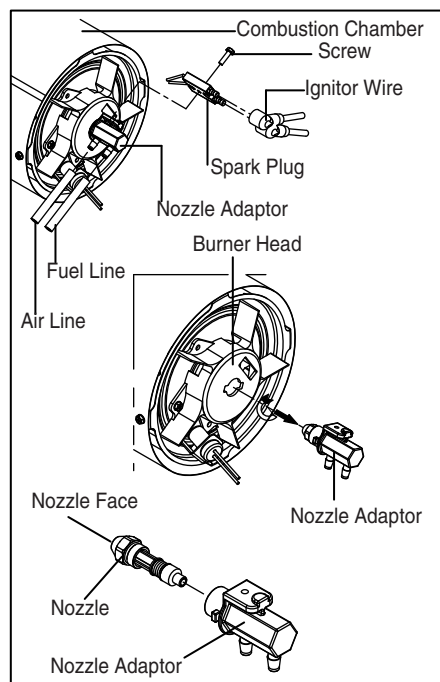

Figure 14. Nozzle Replacement
- Turn nozzle adaptor 1/9 turn(40°) to counter clock wise and pull toward motor to remove. (See Figure 14)